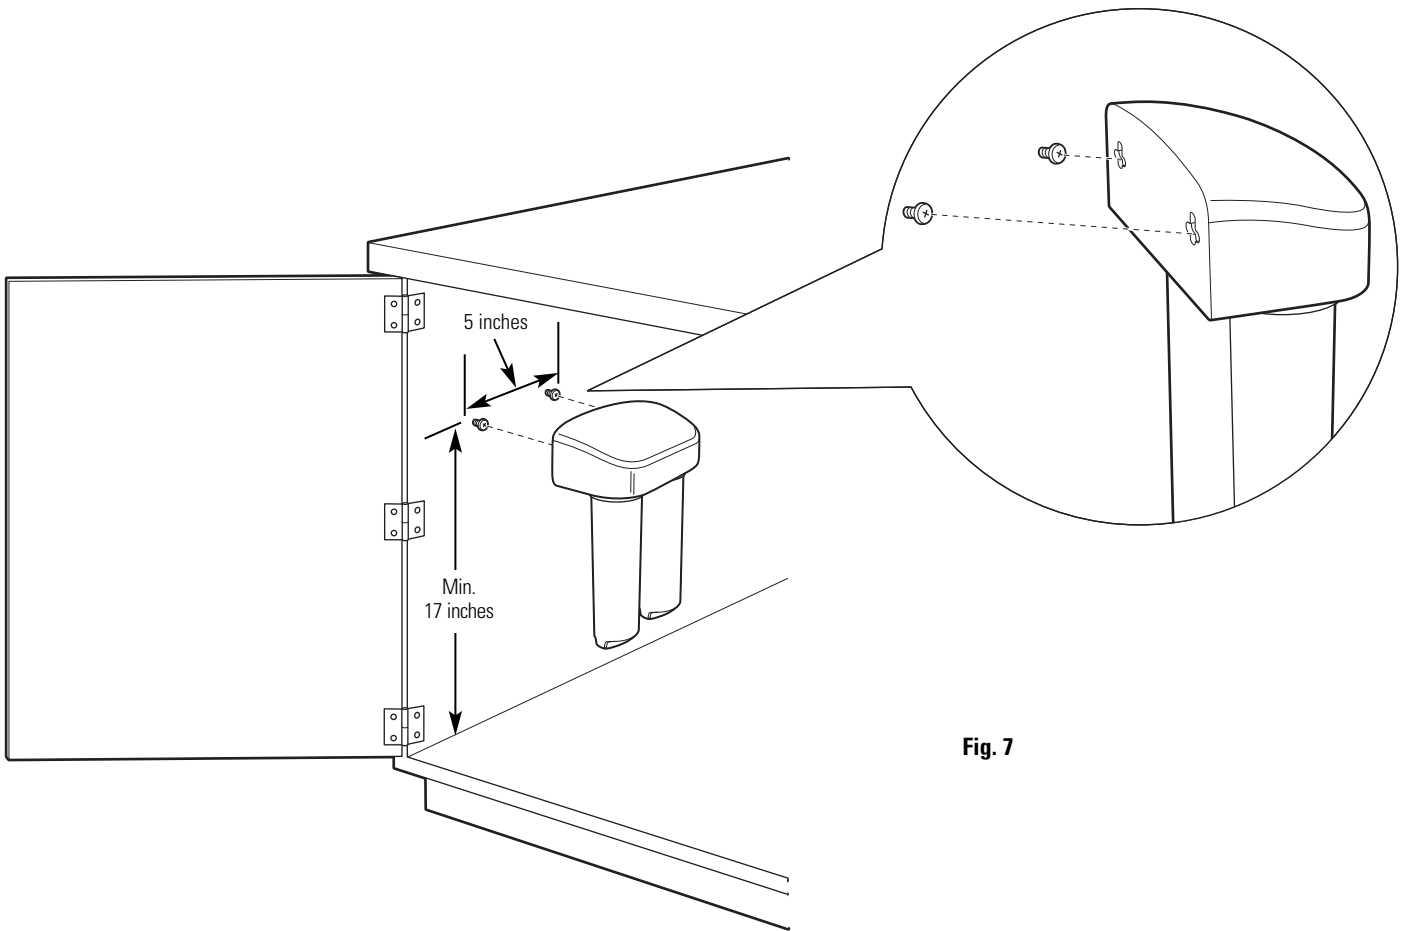

Fig. 7
2. Hang the system on the previously installed screws using the openings on the back of the unit (Fig. 7).